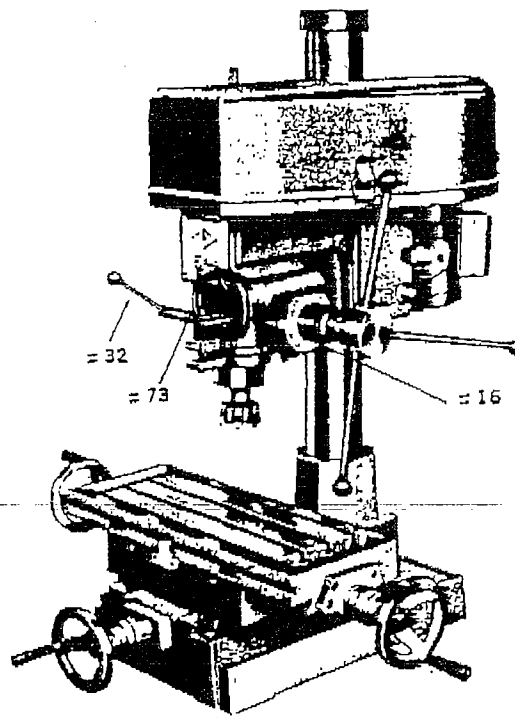

FIG. 7
- E. Place the belts on the desired pulley steps as shown in Fig.7